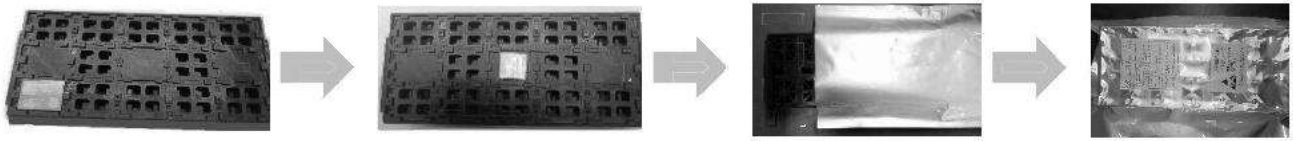

Figure 4-5. Stacking of Trays
Refer to Figure 4-5 for stacking of trays. Plastic trays(③)are stacked into 11 layers. Put Activated Clay(⑤) at the top and bottom of tray (1 pcs for each),and then put 11 trays into one Foil bag(④).Put the Wet sensitive identification card(⑦)into the Foil bag(④).The packaging capacity of Foil bag(④)is:15*10=150 sets of SOM